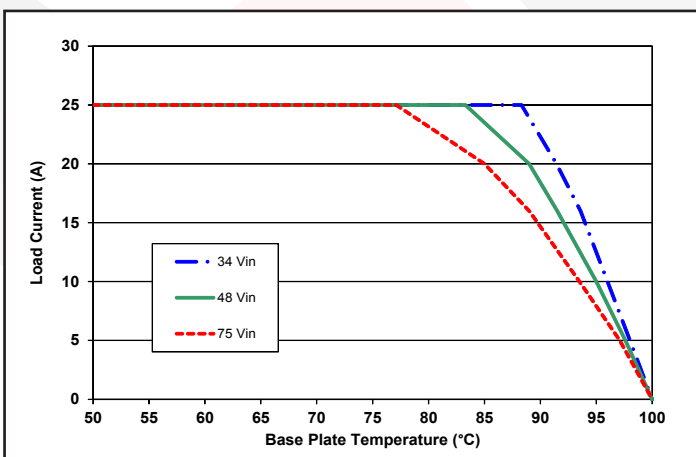

Figure 5: Maximum output current vs. baseplate temperature. Airflow rate of 300 LFM with air flowing from  $V_{in(-)}$  to  $V_{in(+)}$ . See Note 3.
**Thermal Considerations:** The maximum operating base-plate temperature,  $T_B$ , is 100 °C. Refer to the thermal derating curve, Figure 5, to see the available output current at baseplate temperatures below 100 °C.